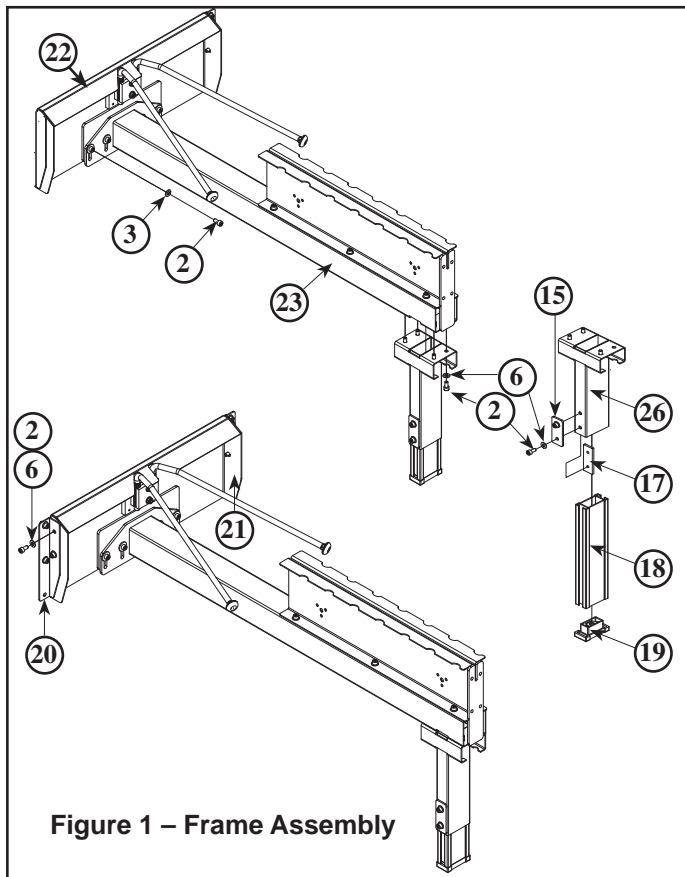

Figure 1 – Frame Assembly
1. Attach assembled Main Frame to the Case Sealer Attachment Plate using 8 x 16mm screws and M8 washers (**Figure 1**).